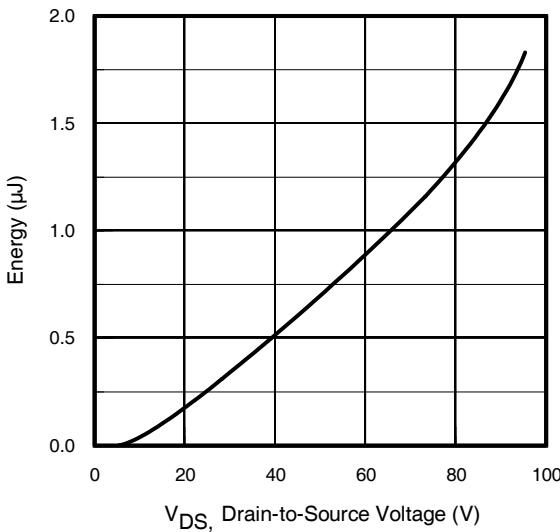

Fig. 11. Typical C_{oss} Stored Energy
- ① Repetitive rating; pulse width limited by max. junction temperature. (See fig. 11)
- ② Limited by $T_{J\text{max}}$, starting $T_J = 25^\circ\text{C}$, $L = 0.91\text{mH}$, $R_G = 25\Omega$, $I_{AS} = 26\text{A}$, $V_{GS} = 10\text{V}$. Part not recommended for use above this value.
- ③ Pulse width $\leq 400\mu\text{s}$; duty cycle $\leq 2\%$.
- ④ R_θ is measured at T_J approximately 90°C .
- ⑤ $C_{\text{oss eff. (TR)}}$ is a fixed capacitance that gives the same charging time as C_{oss} while V_{DS} is rising from 0 to 80% V_{DSS} .
- ⑥ $C_{\text{oss eff. (ER)}}$ is a fixed capacitance that gives the same energy as C_{oss} while V_{DS} is rising from 0 to 80% V_{DSS} .